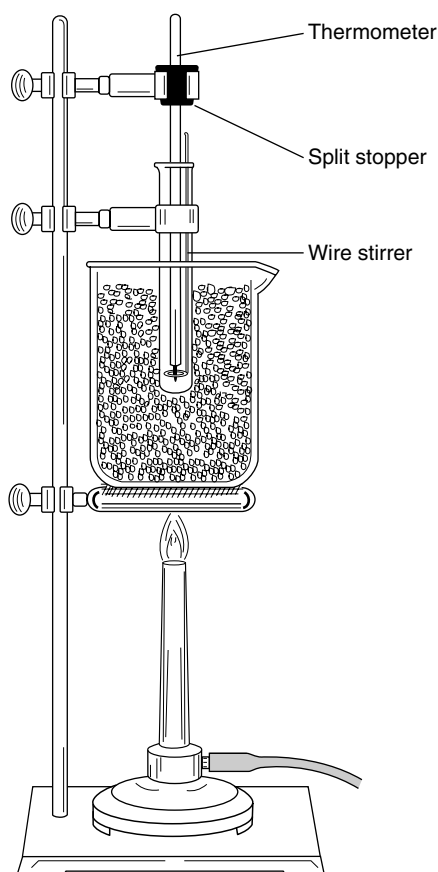

Figure 17.3
- A. Assemble the apparatus shown in Figure 17.3 using a thermometer graduated in tenths of degrees Celsius. A circular stirrer may be formed from No. 18 wire. A 600-mL beaker half full of water may be used as the water bath.